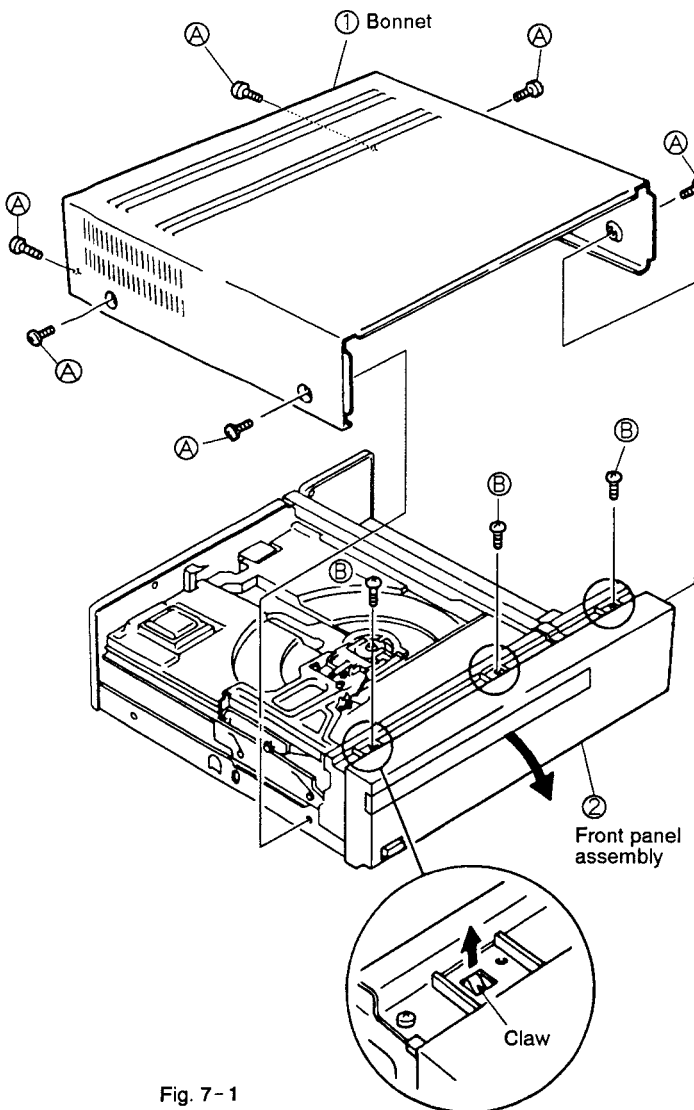
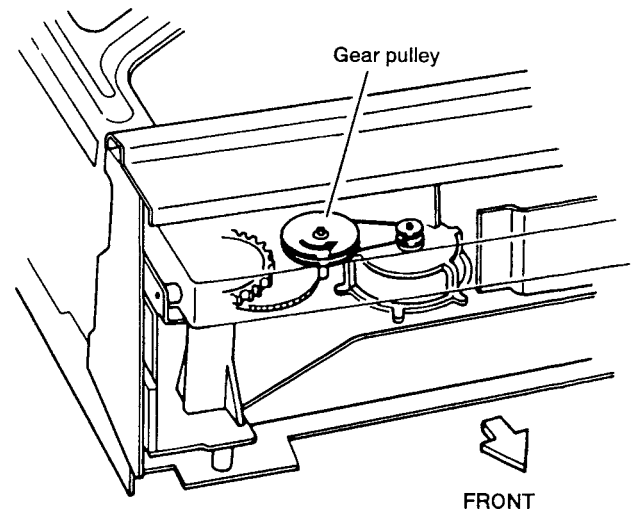

Fig. 7-1
Fig. 7-3
### 7.1 REMOVING THE BONNET AND FRONT PANEL (Fig. 7-1, 2)
- ② When the power cannot be turned ON, remove the front panel (Fig. 7-1), and turn the gear pulley shown in Fig. 7-3 counterclockwise, and the tray will slide out toward the front.